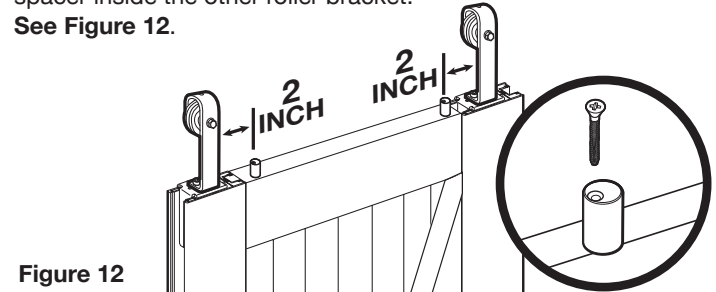

Figure 12
Once the Rolling brackets have been secured and the finishing strips in place, it is important to install the Safety spacers (W). These spacers help to protect the door from being bumped off of the track. With the door laying flat in a safe and secure position, place one of the two spacers approximately 2" to the inside of one of the roller brackets. Place slightly off center towards the front of the door. Using a drill, secure the spacer with the screw provided. Repeat steps to install the second spacer inside the other roller bracket. See Figure 12.